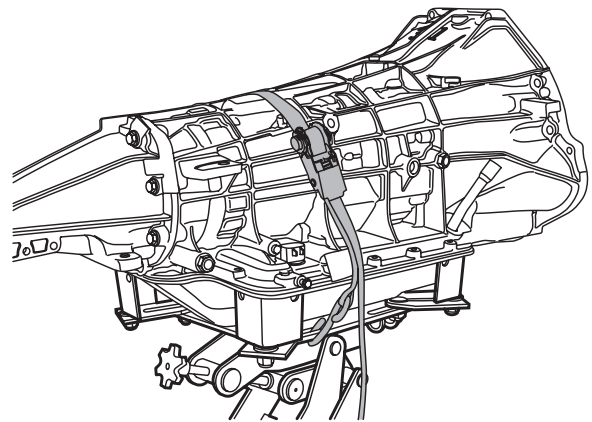

Figure 2
4. Use ratchet strap to secure the transmission to the transmission jack as shown in Figure 2. Attach the hooks on the end of the ratchet strap to the slots provided in the mounting plate, the top holes in the transmission adapters, or other suitable locations.